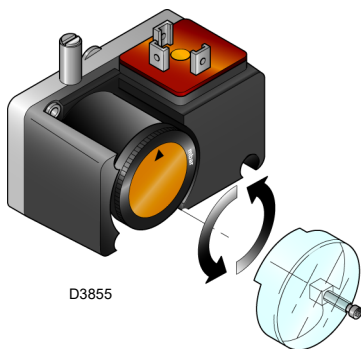

Fig. 24
- Adjust the minimum gas pressure switch to the start of the scale (Fig. 24).